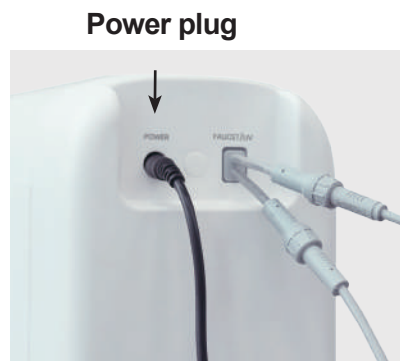

Figure 18
3. Connect Power Adapter: Insert the DC head of the power adapter into the “POWER” port at the back of the housing (Figure 18).